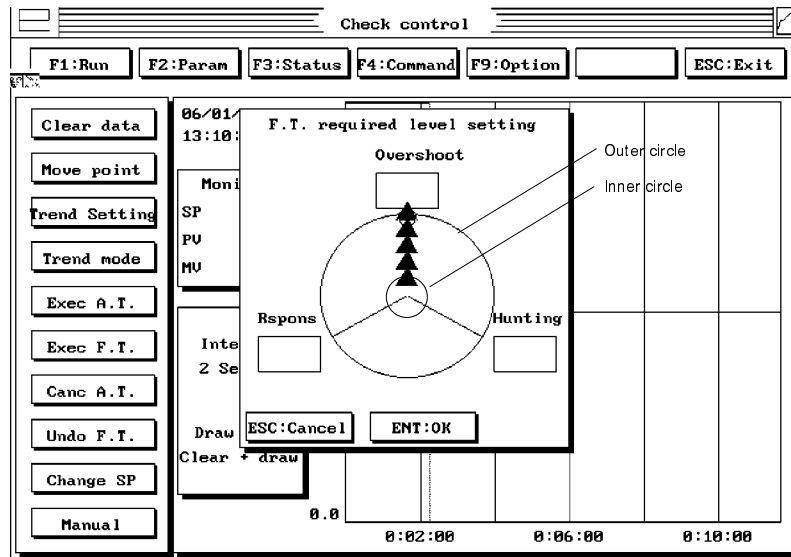

Figure 23
- Another pop-menu appears which allows you to set fuzzy logic fine tuning (Figure 23).